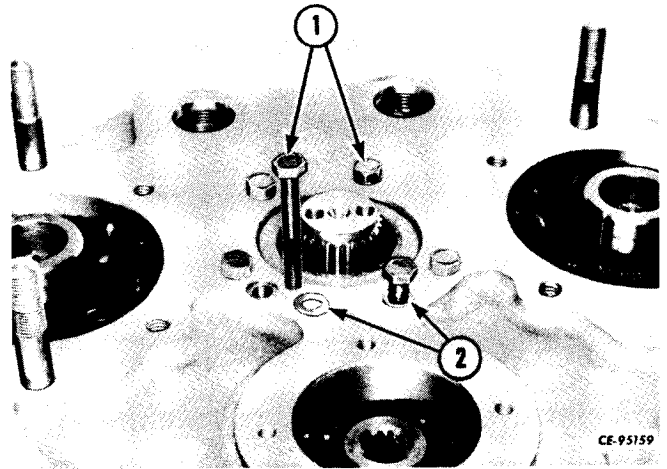

Figure 3-7
Carefully invert the converter assembly. Remove the cap screws (1, Fig. 3-7) and copper washers (2) that hold the guide wheel carrier to the converter housing. Discard the copper washers.